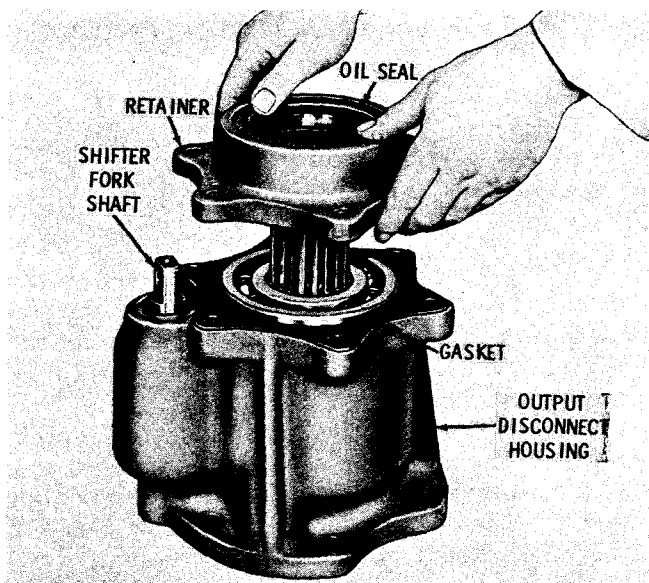

Fig. 6-18. Removing (or installing) bearing retainer
(3) Remove the oil seal from the retainer only if replacement is necessary.
(4) Remove the shifter shaft by unscrewing it (counterclockwise), and lifting it out (fig. 6-18).
(5) Remove snapping 50 (A, foldout 18), bearing inner race 48 and thrust washer 46. If race 48 is too tight to be easily removed, coupling 45 can be pushed forward (toward bearing 41) to provide room to install a puller over thrust washer 46.